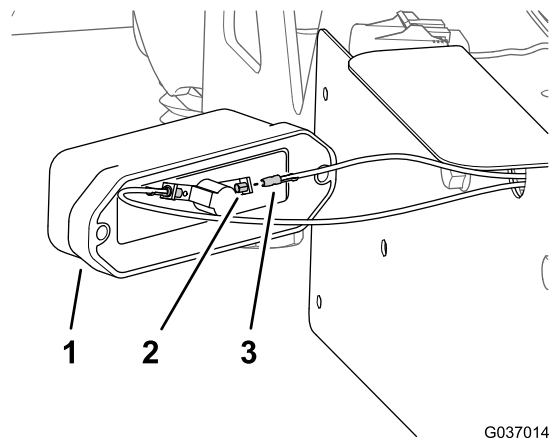

Figure 40
- 1. Insert the 2 bullet connectors labeled LICENSE LIGHT into the 2 sockets of the license-plate light (Figure 40).